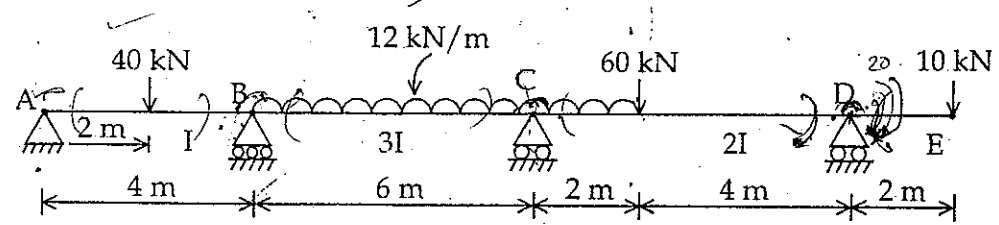

Figure 5
easy (B) Analyze the continuous beam shown in Figure 5, by the slope deflection method. Draw the shear force and bending moment diagrams. Also sketch the deflected shape of the structure.